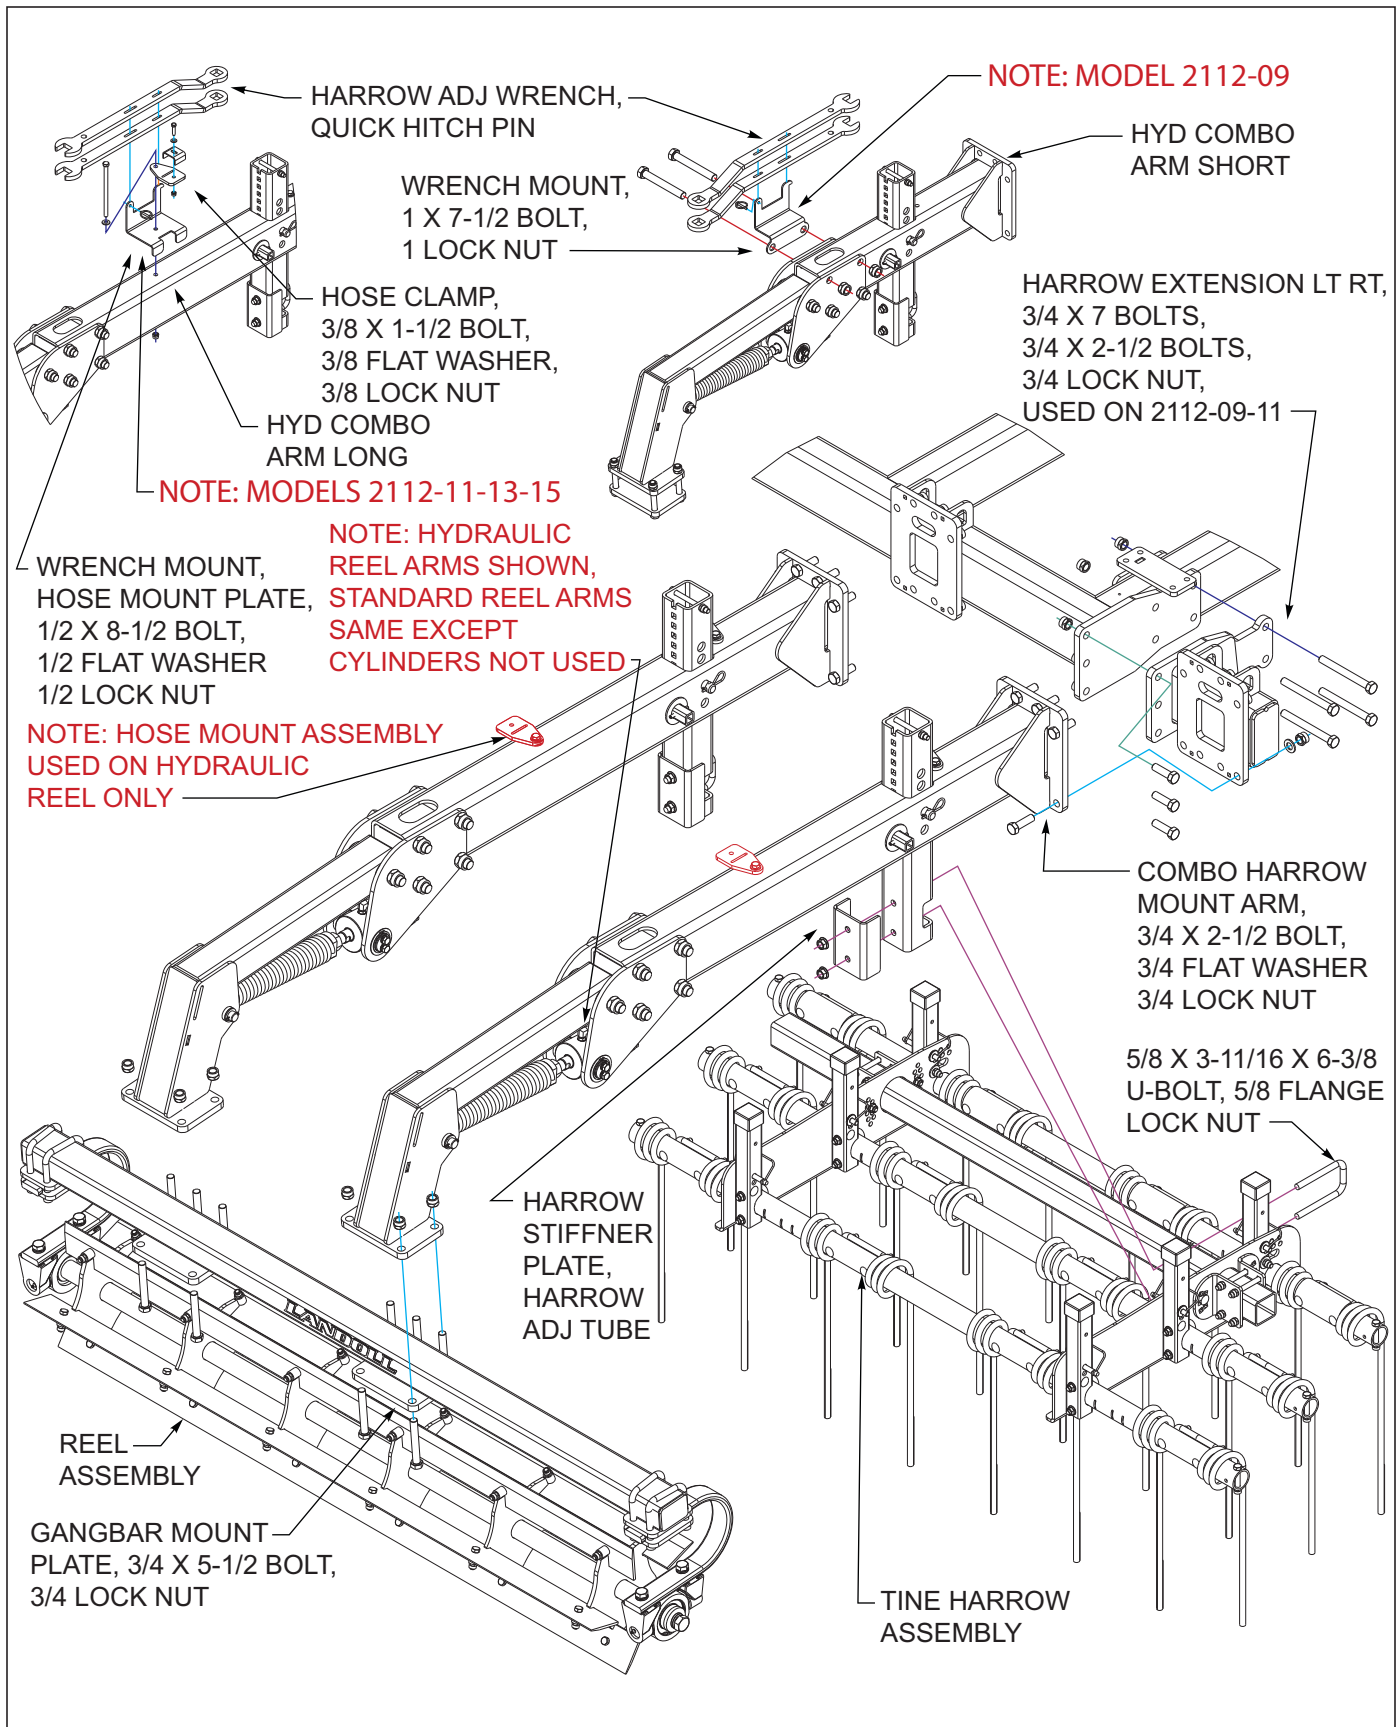
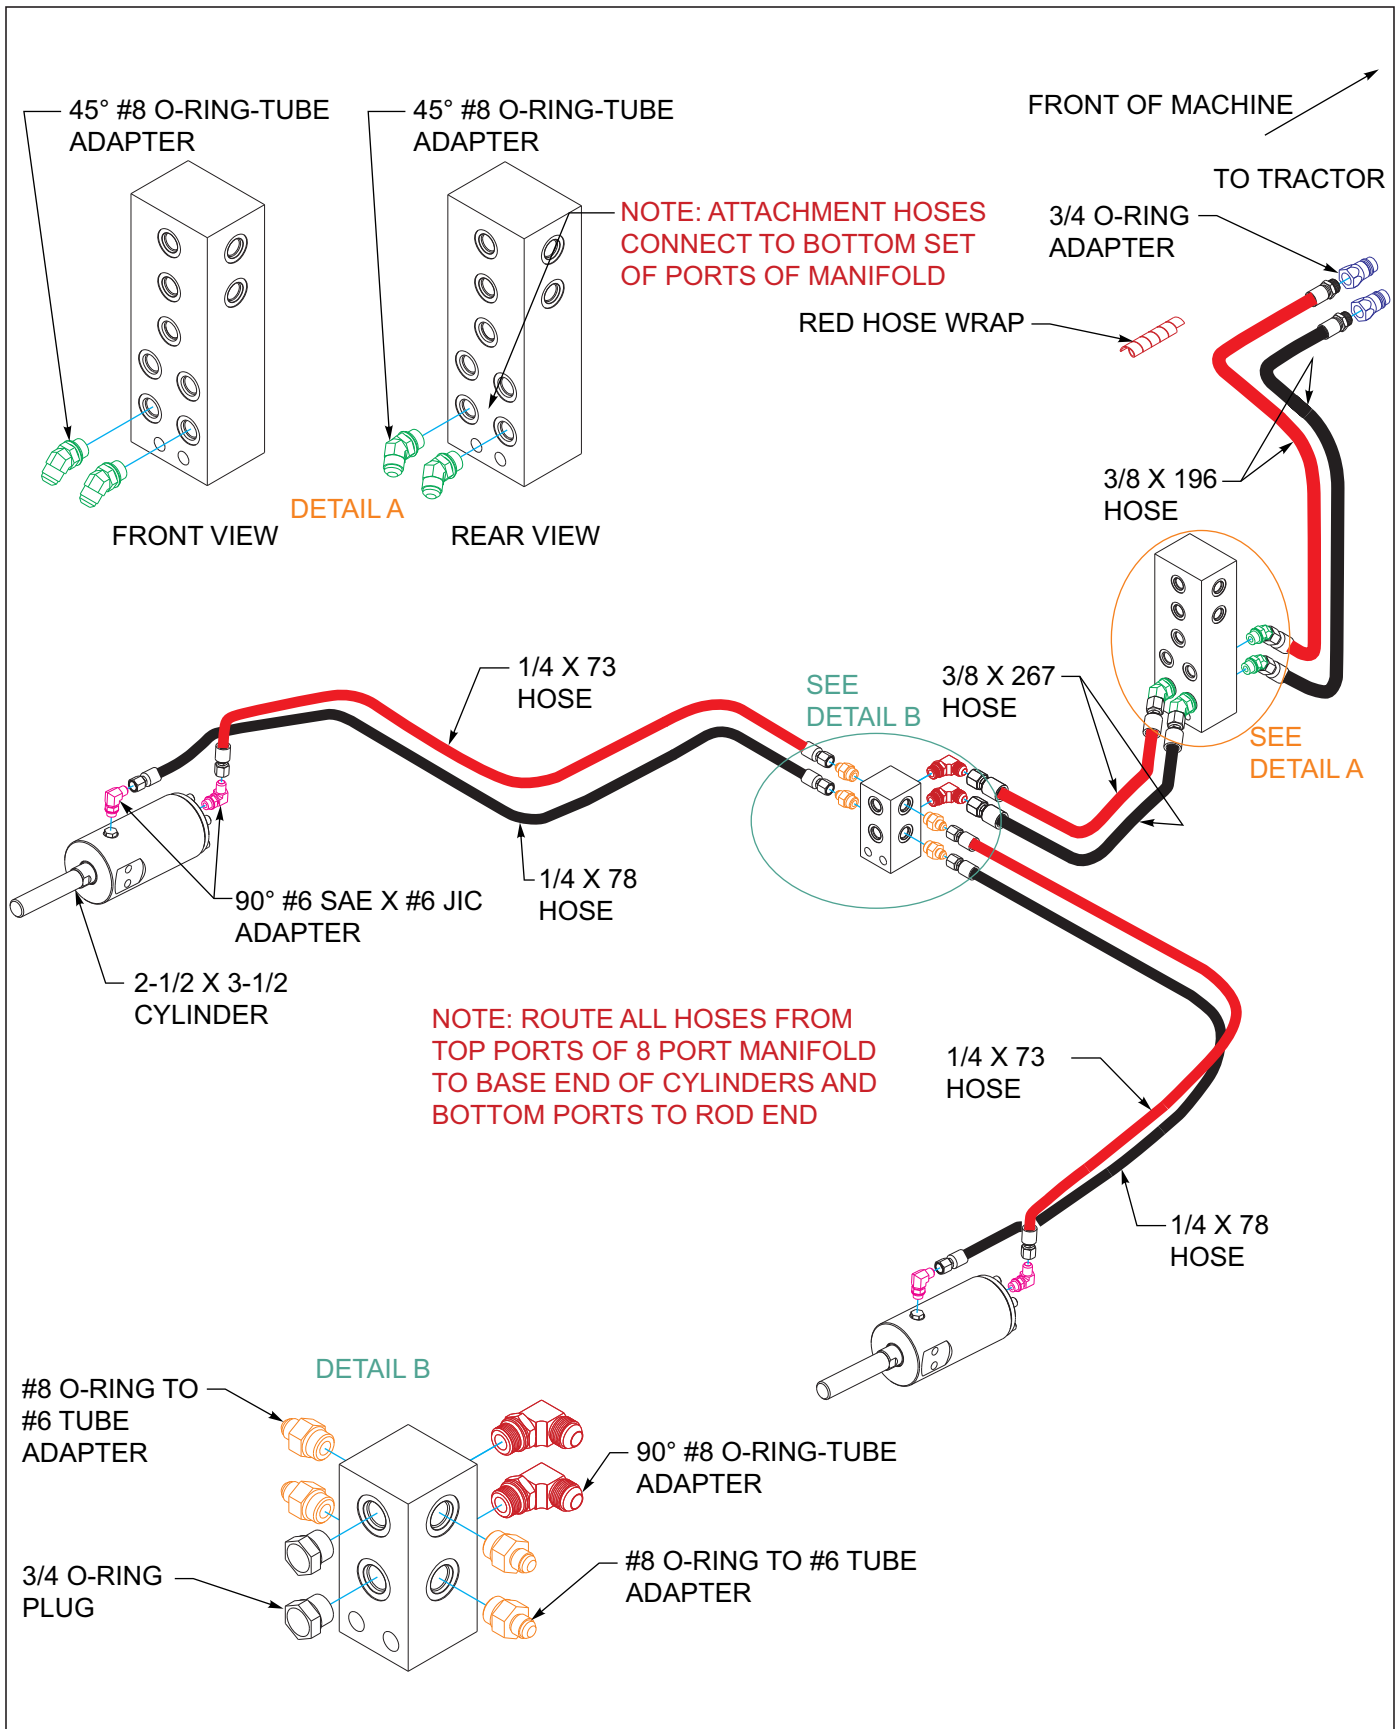
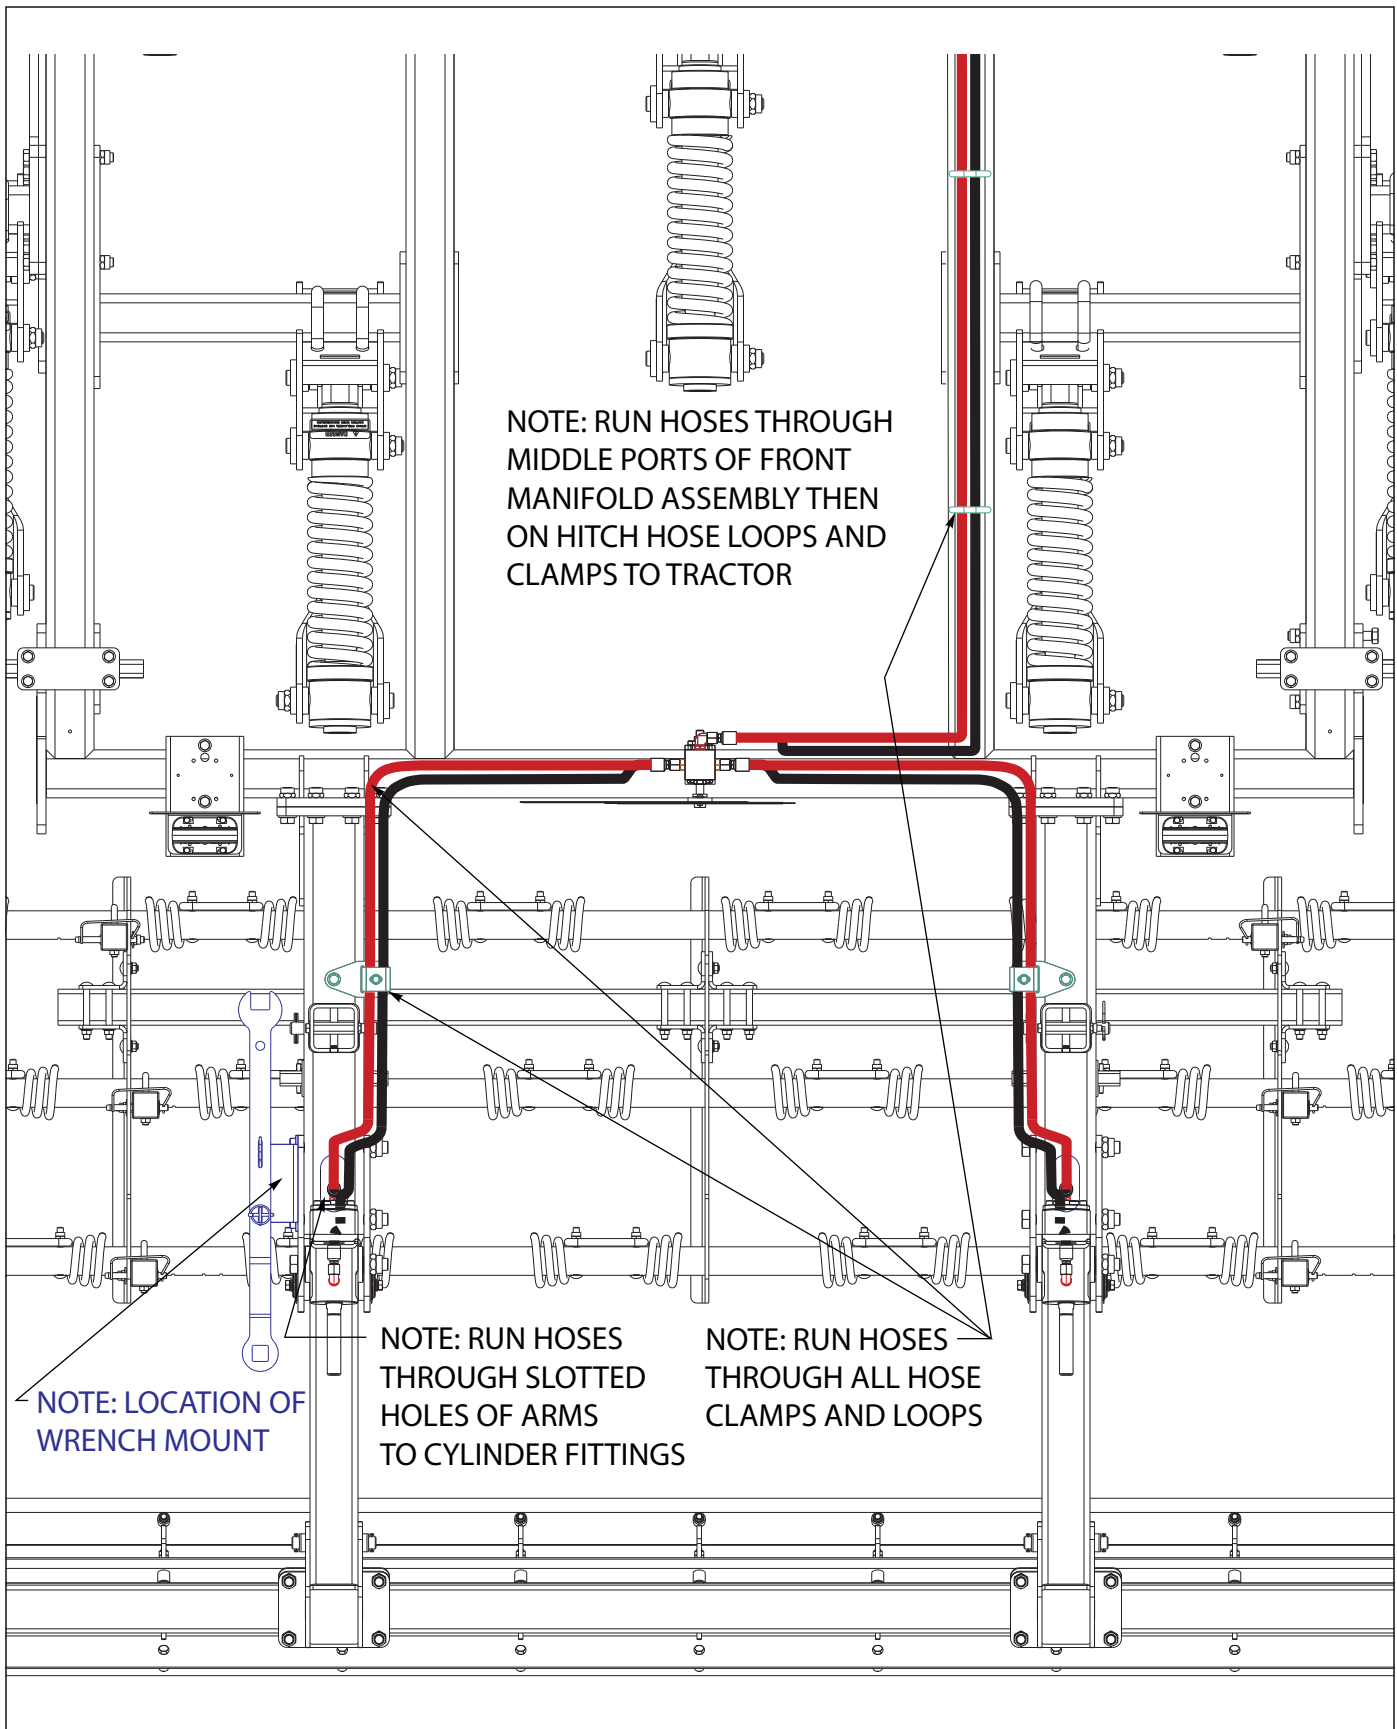
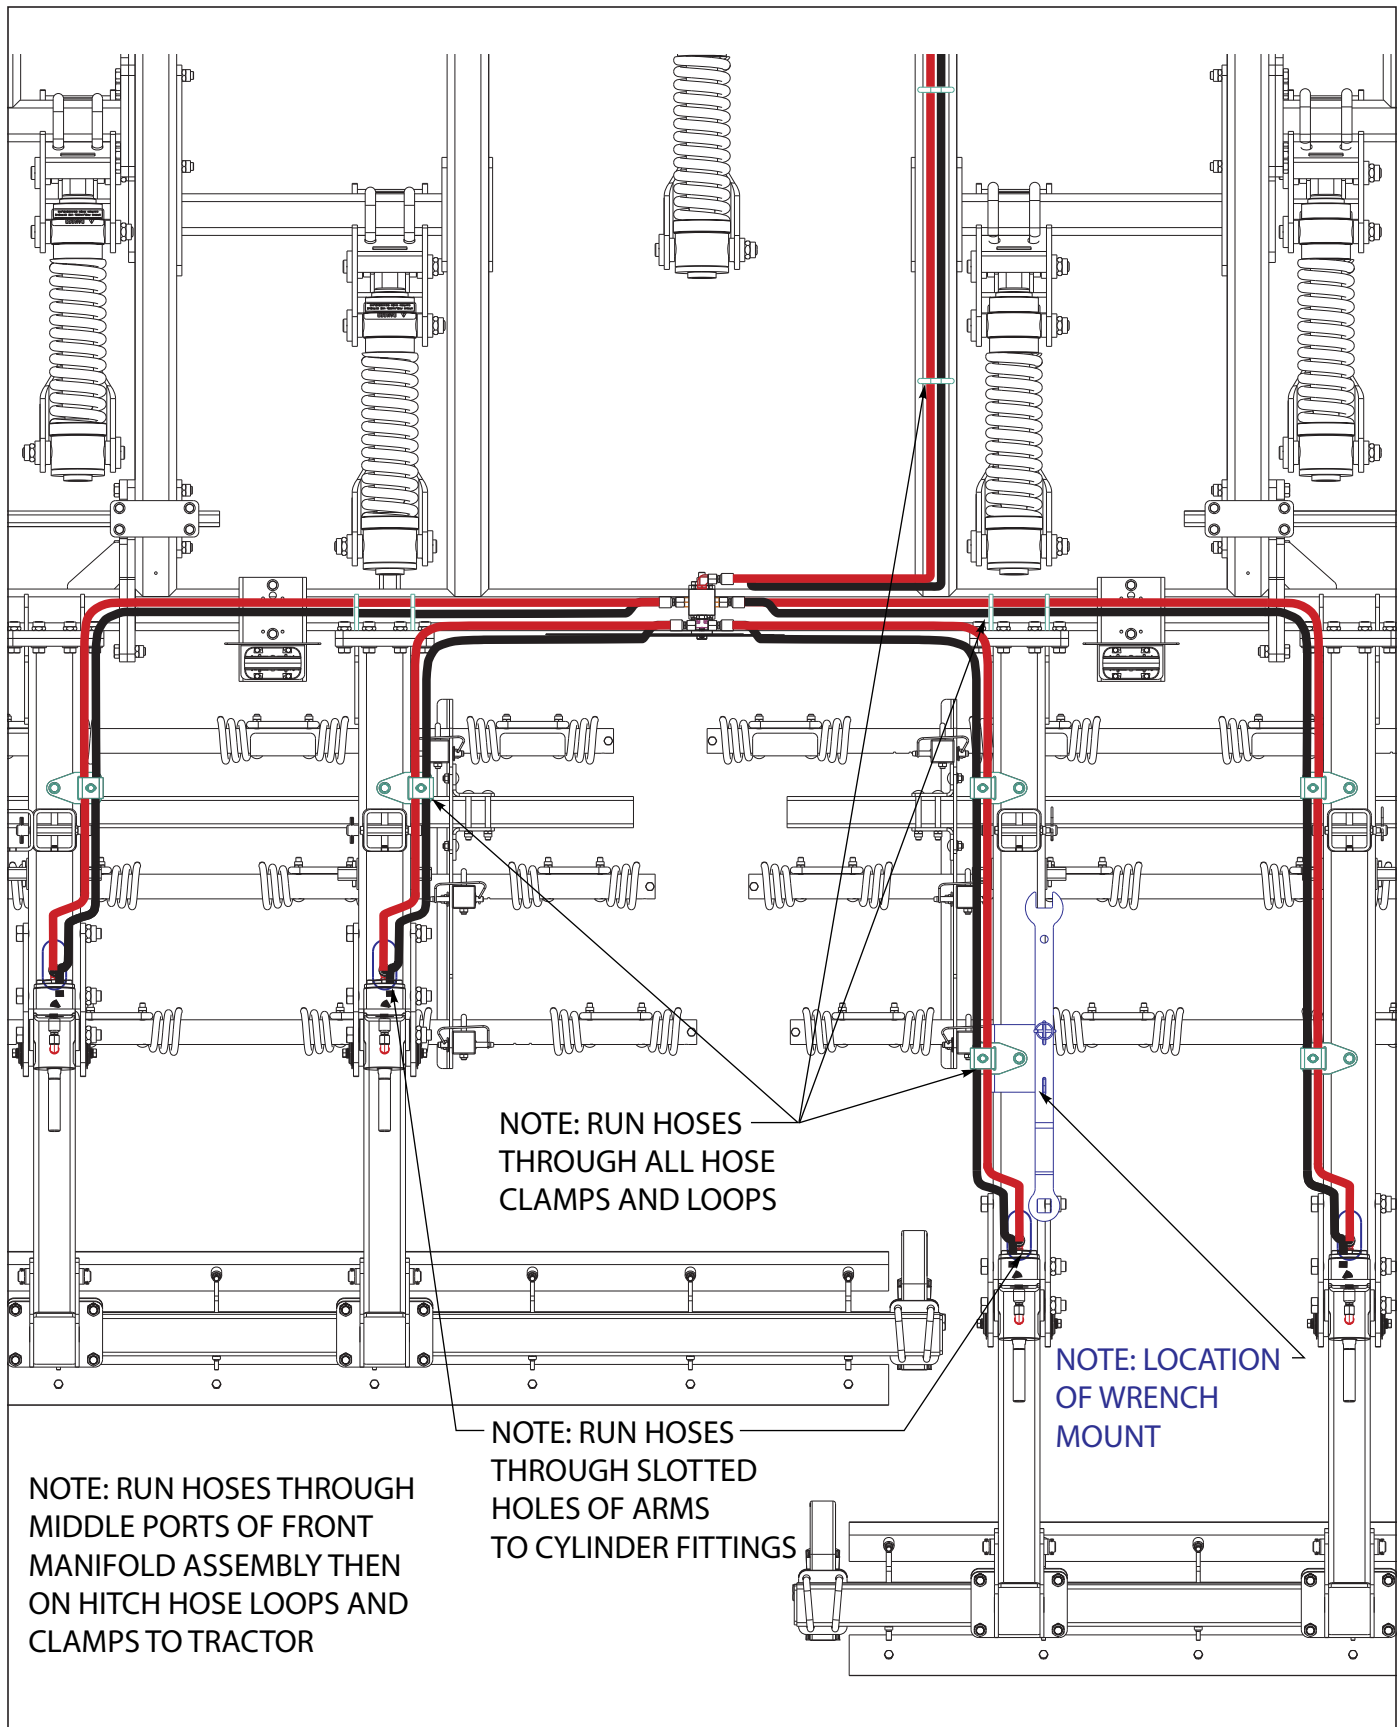

Figure 3-23: Standard or Hydraulic 3BCT/Chopper Installation (Option)
Figure 3-24: 3BCT/Chopper Hydraulic Installation 2112-09
Figure 3-26: 3BCT/Chopper Hydraulic Layout 2112-09
Figure 3-27: 3BCT/Chopper Hydraulic Layout 2112-11-13-15
1. Model 2111-11, attach the harrow extension LT and RT to plates on end of frame with 3/4 x 7 bolts, 3/4 x 2-1/2 bolts and 3/4 lock nuts See Figures 3-23.
2. Attach the combo harrow mount arm long assemblies on rear of center frame, RT side, and short arm assemblies, LT side, to plates on rear of center frame, with 3/4 x 2-1/2 bolts, 3/4 flat washers, 3/4 lock nuts See Figures 3-23.
4. Attach the harrow tine assemblies, secure with the u-bolts, harrow stiffner plates, nuts that were just removed as shown See Figures 3-23.
6. Attach the reel assemblies, secure with the gangbar mount plates, 3/4 x 5-1/2 bolts, 3/4 lock nuts, that were just removed as shown See Figures 3-23.
8. Models 2112-11-13-15 attach the wrench mount with the 1/2 x 8-1/2 bolts, 1/2 flat washer, 1/2 lock nuts to the combo harrow mount arm See Figures 3-23. See Figures 3-26 for proper location of the wrench mount.
9. On hydraulic 3BCT/Chopper Reel option, install the hose mount plate with the 1/2 x 8-1/2 bolt, 1/2 flat washer, 1/2 lock nut, the hose clamp attaches with 3/8 x 1-1/2 bolt, 3/8 flat washer, 3/8 lock nut See Figures 3-23. See Figures 3-27 for proper location of the wrench mount.
12. On hydraulic 3BCT/Chopper Reel option, See Figures 3-24 through See Figures 3-27 for proper hydraulic installation.
1. Models 2112-11, attach the harrow extension LT and RT to plates on end of frame with 3/4 x 7 bolts, 3/4 x 2-1/2 bolts and 3/4 lock nuts See Figures 3-23.
4. Attach the reel assemblies, secure with the u-bolts, gangbar mount plates, nuts that were just removed as shown See Figures 3-23.